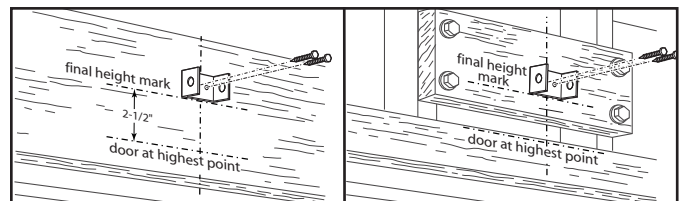

FIG. 2-3 Header bracket mounting (on header & above header).
NOTE: If header bracket location needs to be above header for garage door opening, you need to add a "mounting surface." A 2" x 6" board securely attached (board and fasteners not included) to wall studs on either side of your mark is sufficient (**Fig. 2-3**).
- Hold header bracket against wall (**Fig. 2-3**).
- Fasten header bracket with 2 lag screws (provided) (**Fig. 2-3**).